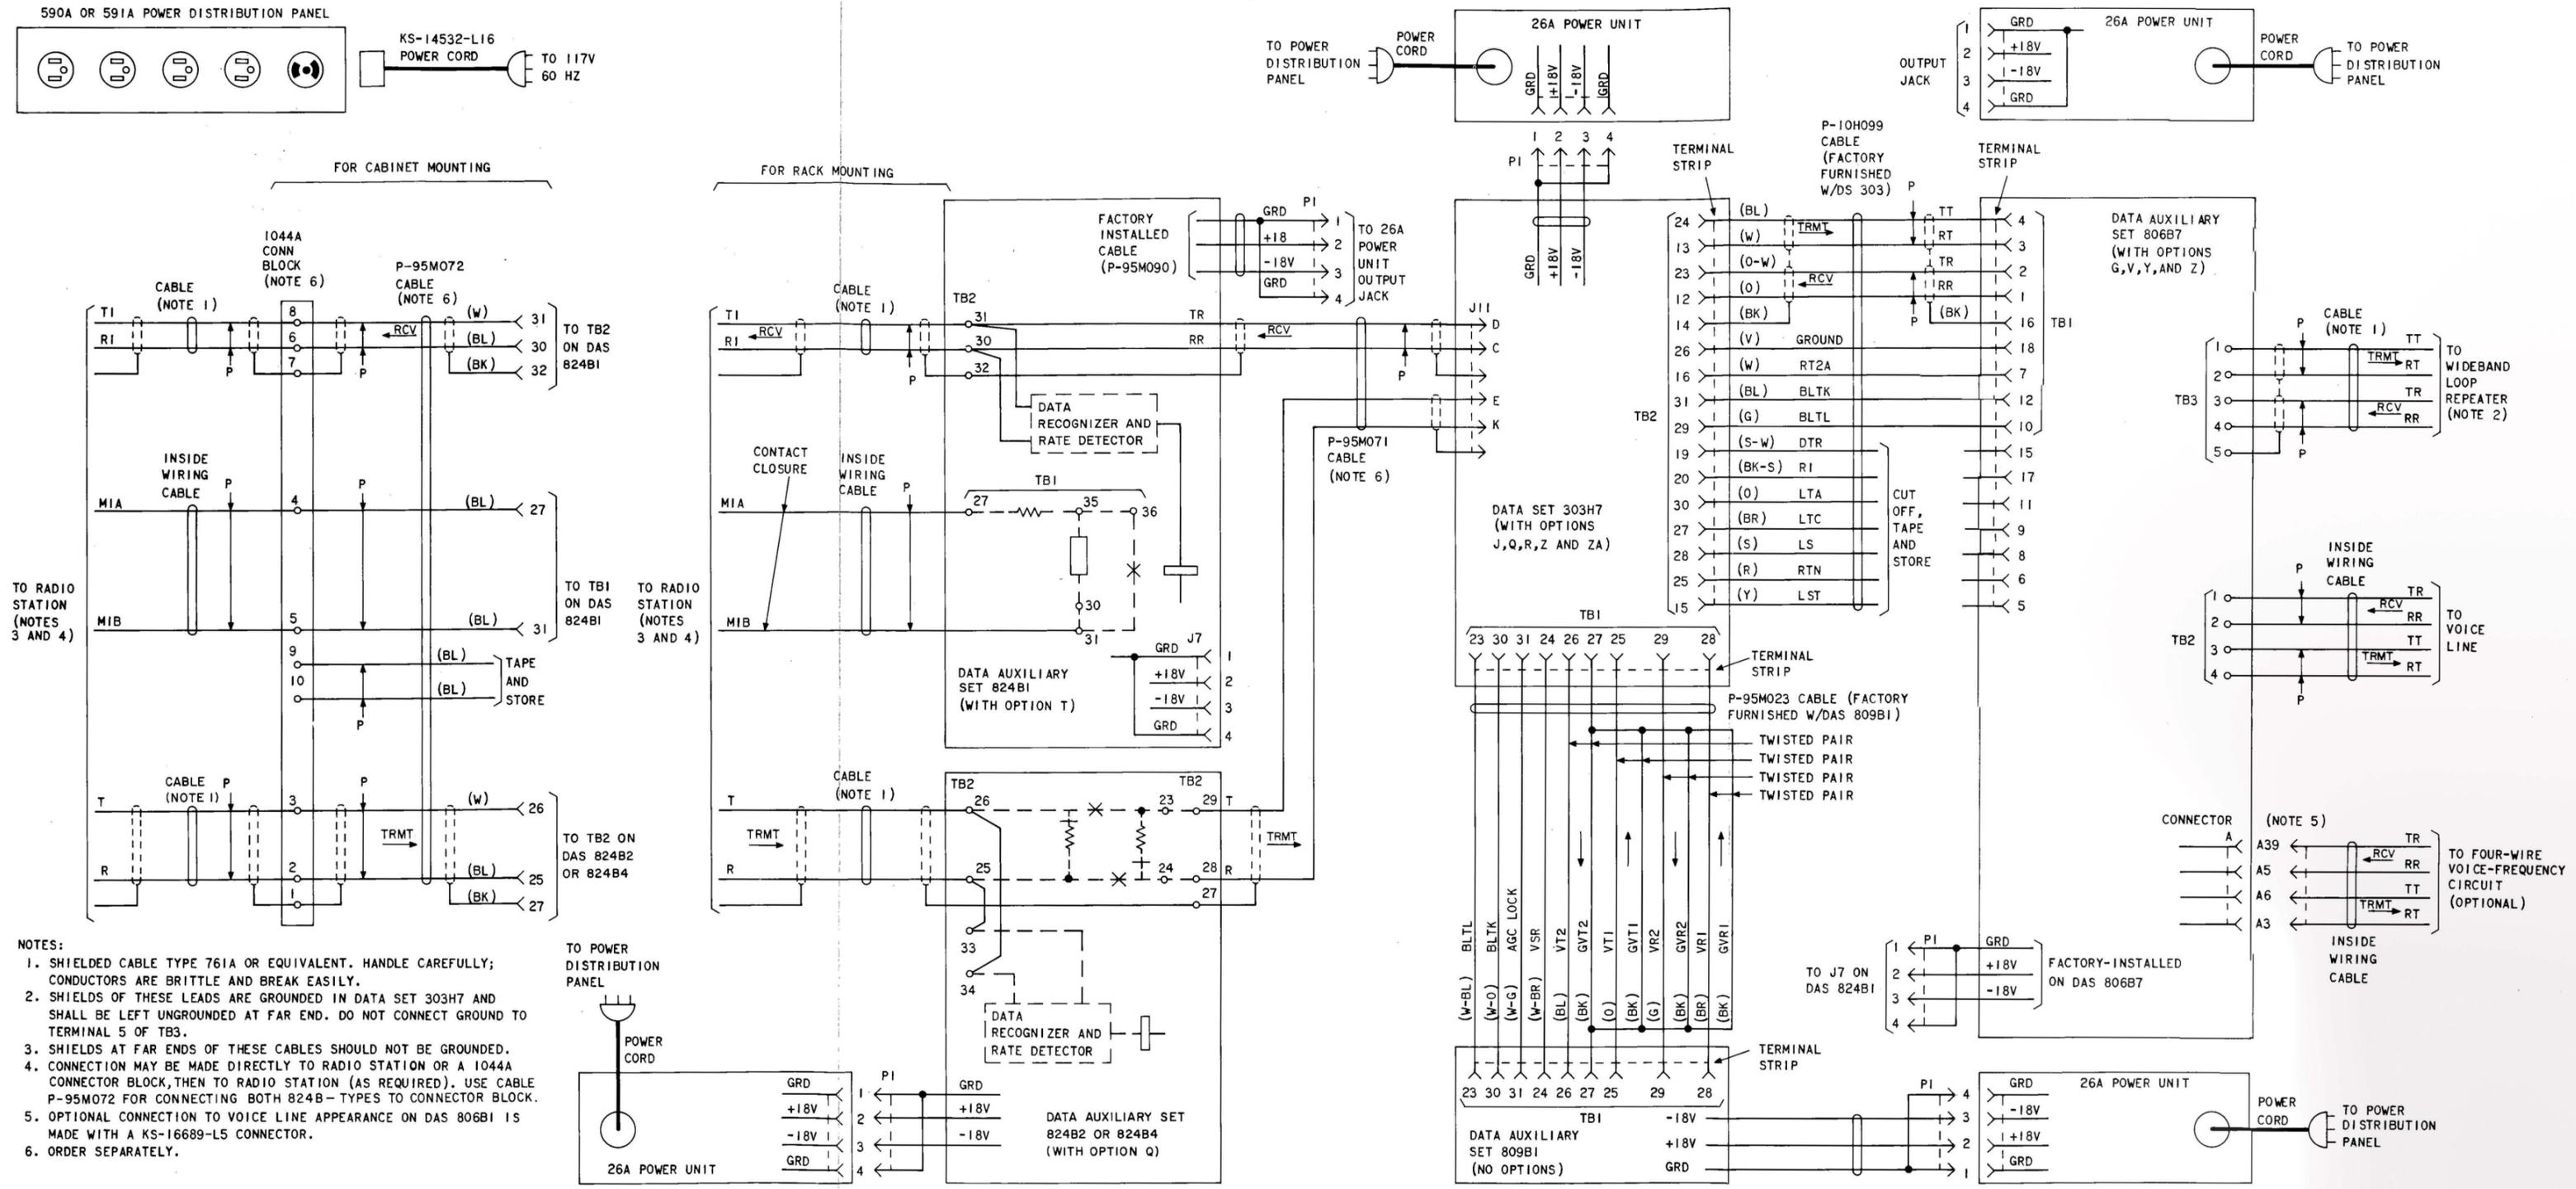
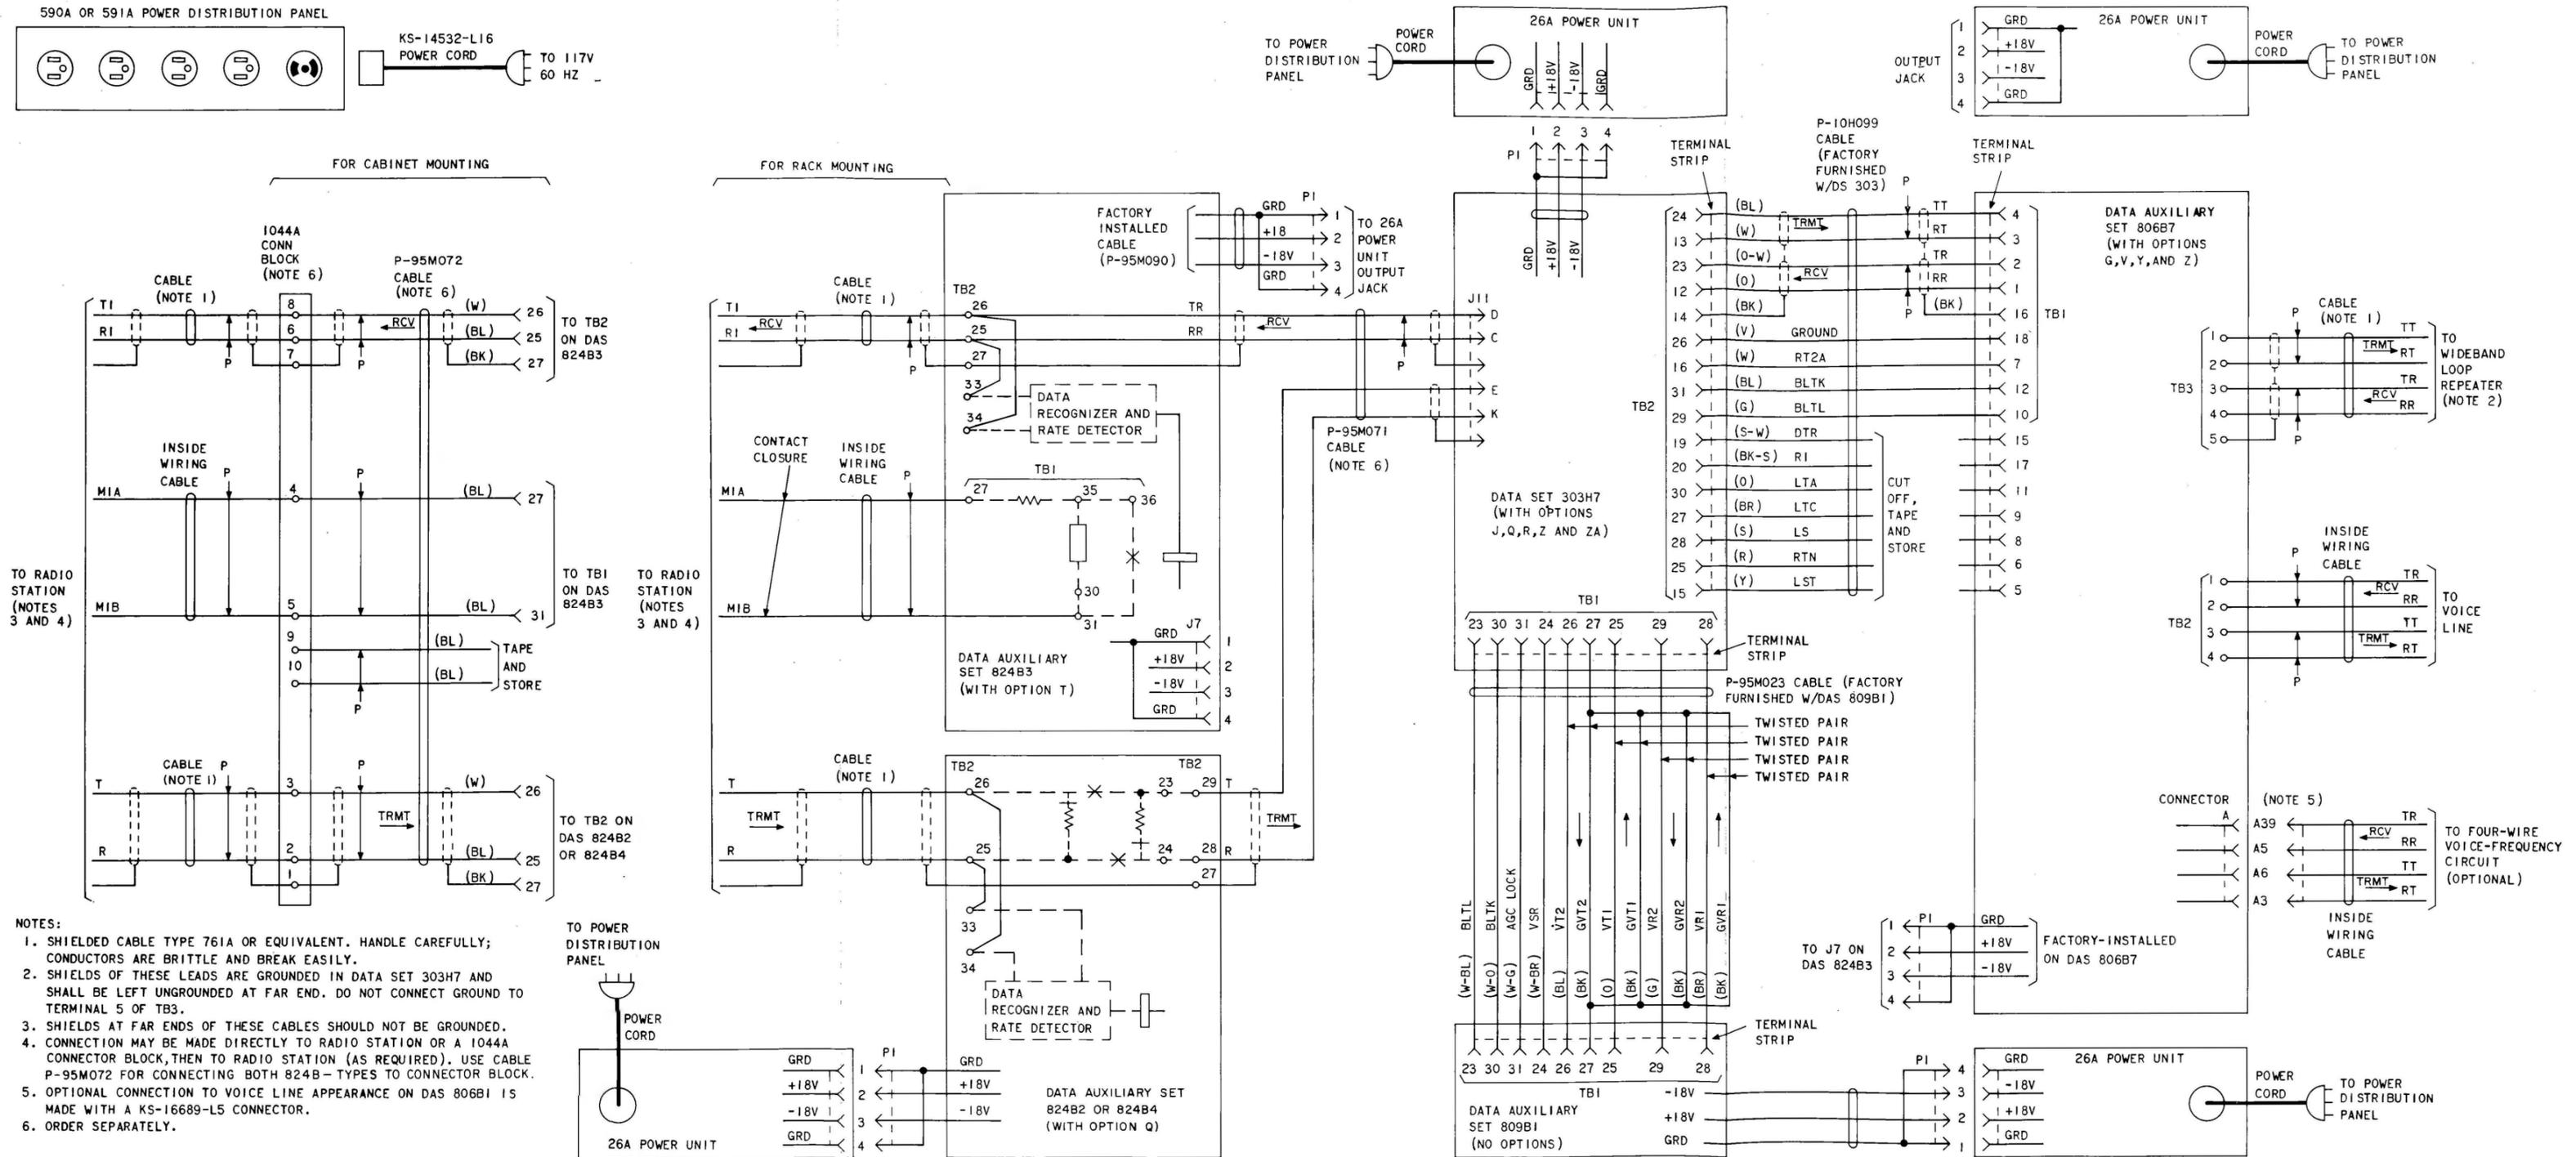

Fig. 9—Echo-Fox Wideband Data Station Using Data Auxiliary Set 824B1—Connection Diagram
Fig. 10—Echo-Fox Wideband Data Station Using Data Auxiliary Set 824B3—Connection Diagram
3.01 Make interconnections between the data set, the data auxiliary sets, and the power units to the power distribution panel as shown in Fig. 9 (using DAS 824B1) or Fig. 10 (using DAS 824B3).
3.03 After interconnections have been made within the data station, make connections to the radio station, the wideband loop repeater, and the voice lines as shown in Fig. 9 or 10.